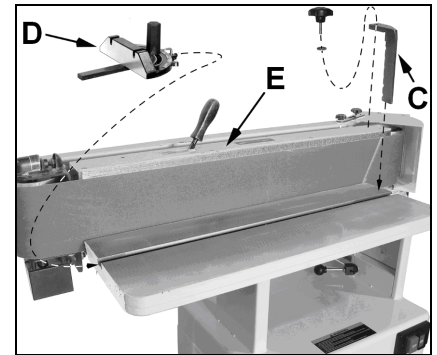

Fig 8
With the sanding platen (E, Fig 8) locked in the vertical position, the backstop (C) must be installed.